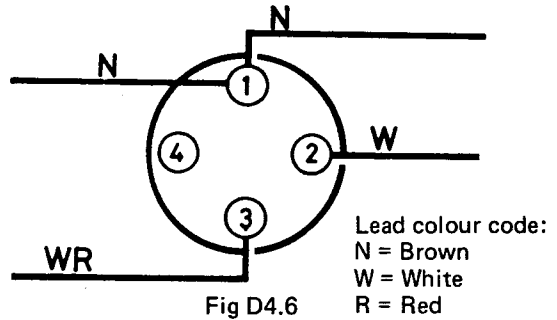

Fig D4.6
- (3) Refer to Fig D4.6. Reconnect the leads to the ignition switch.
- (4) Replace the steering column upper shroud (four screws).
- (5) Reconnect the battery earth lead.